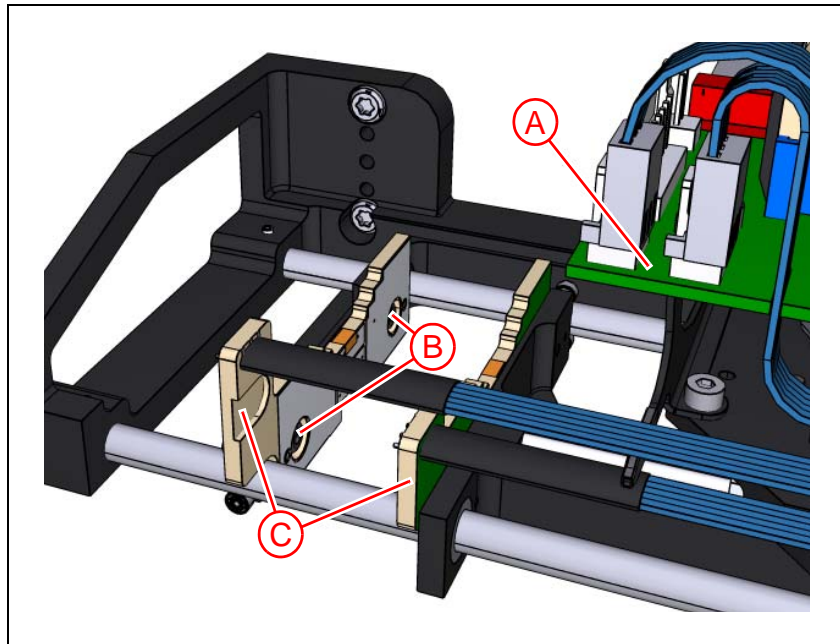

Figure 8-7. Centering Jaws
1. Check the wiring before disconnecting the cables to the XTC board ('A' in Figure 8-7) so that you can reconnect properly.